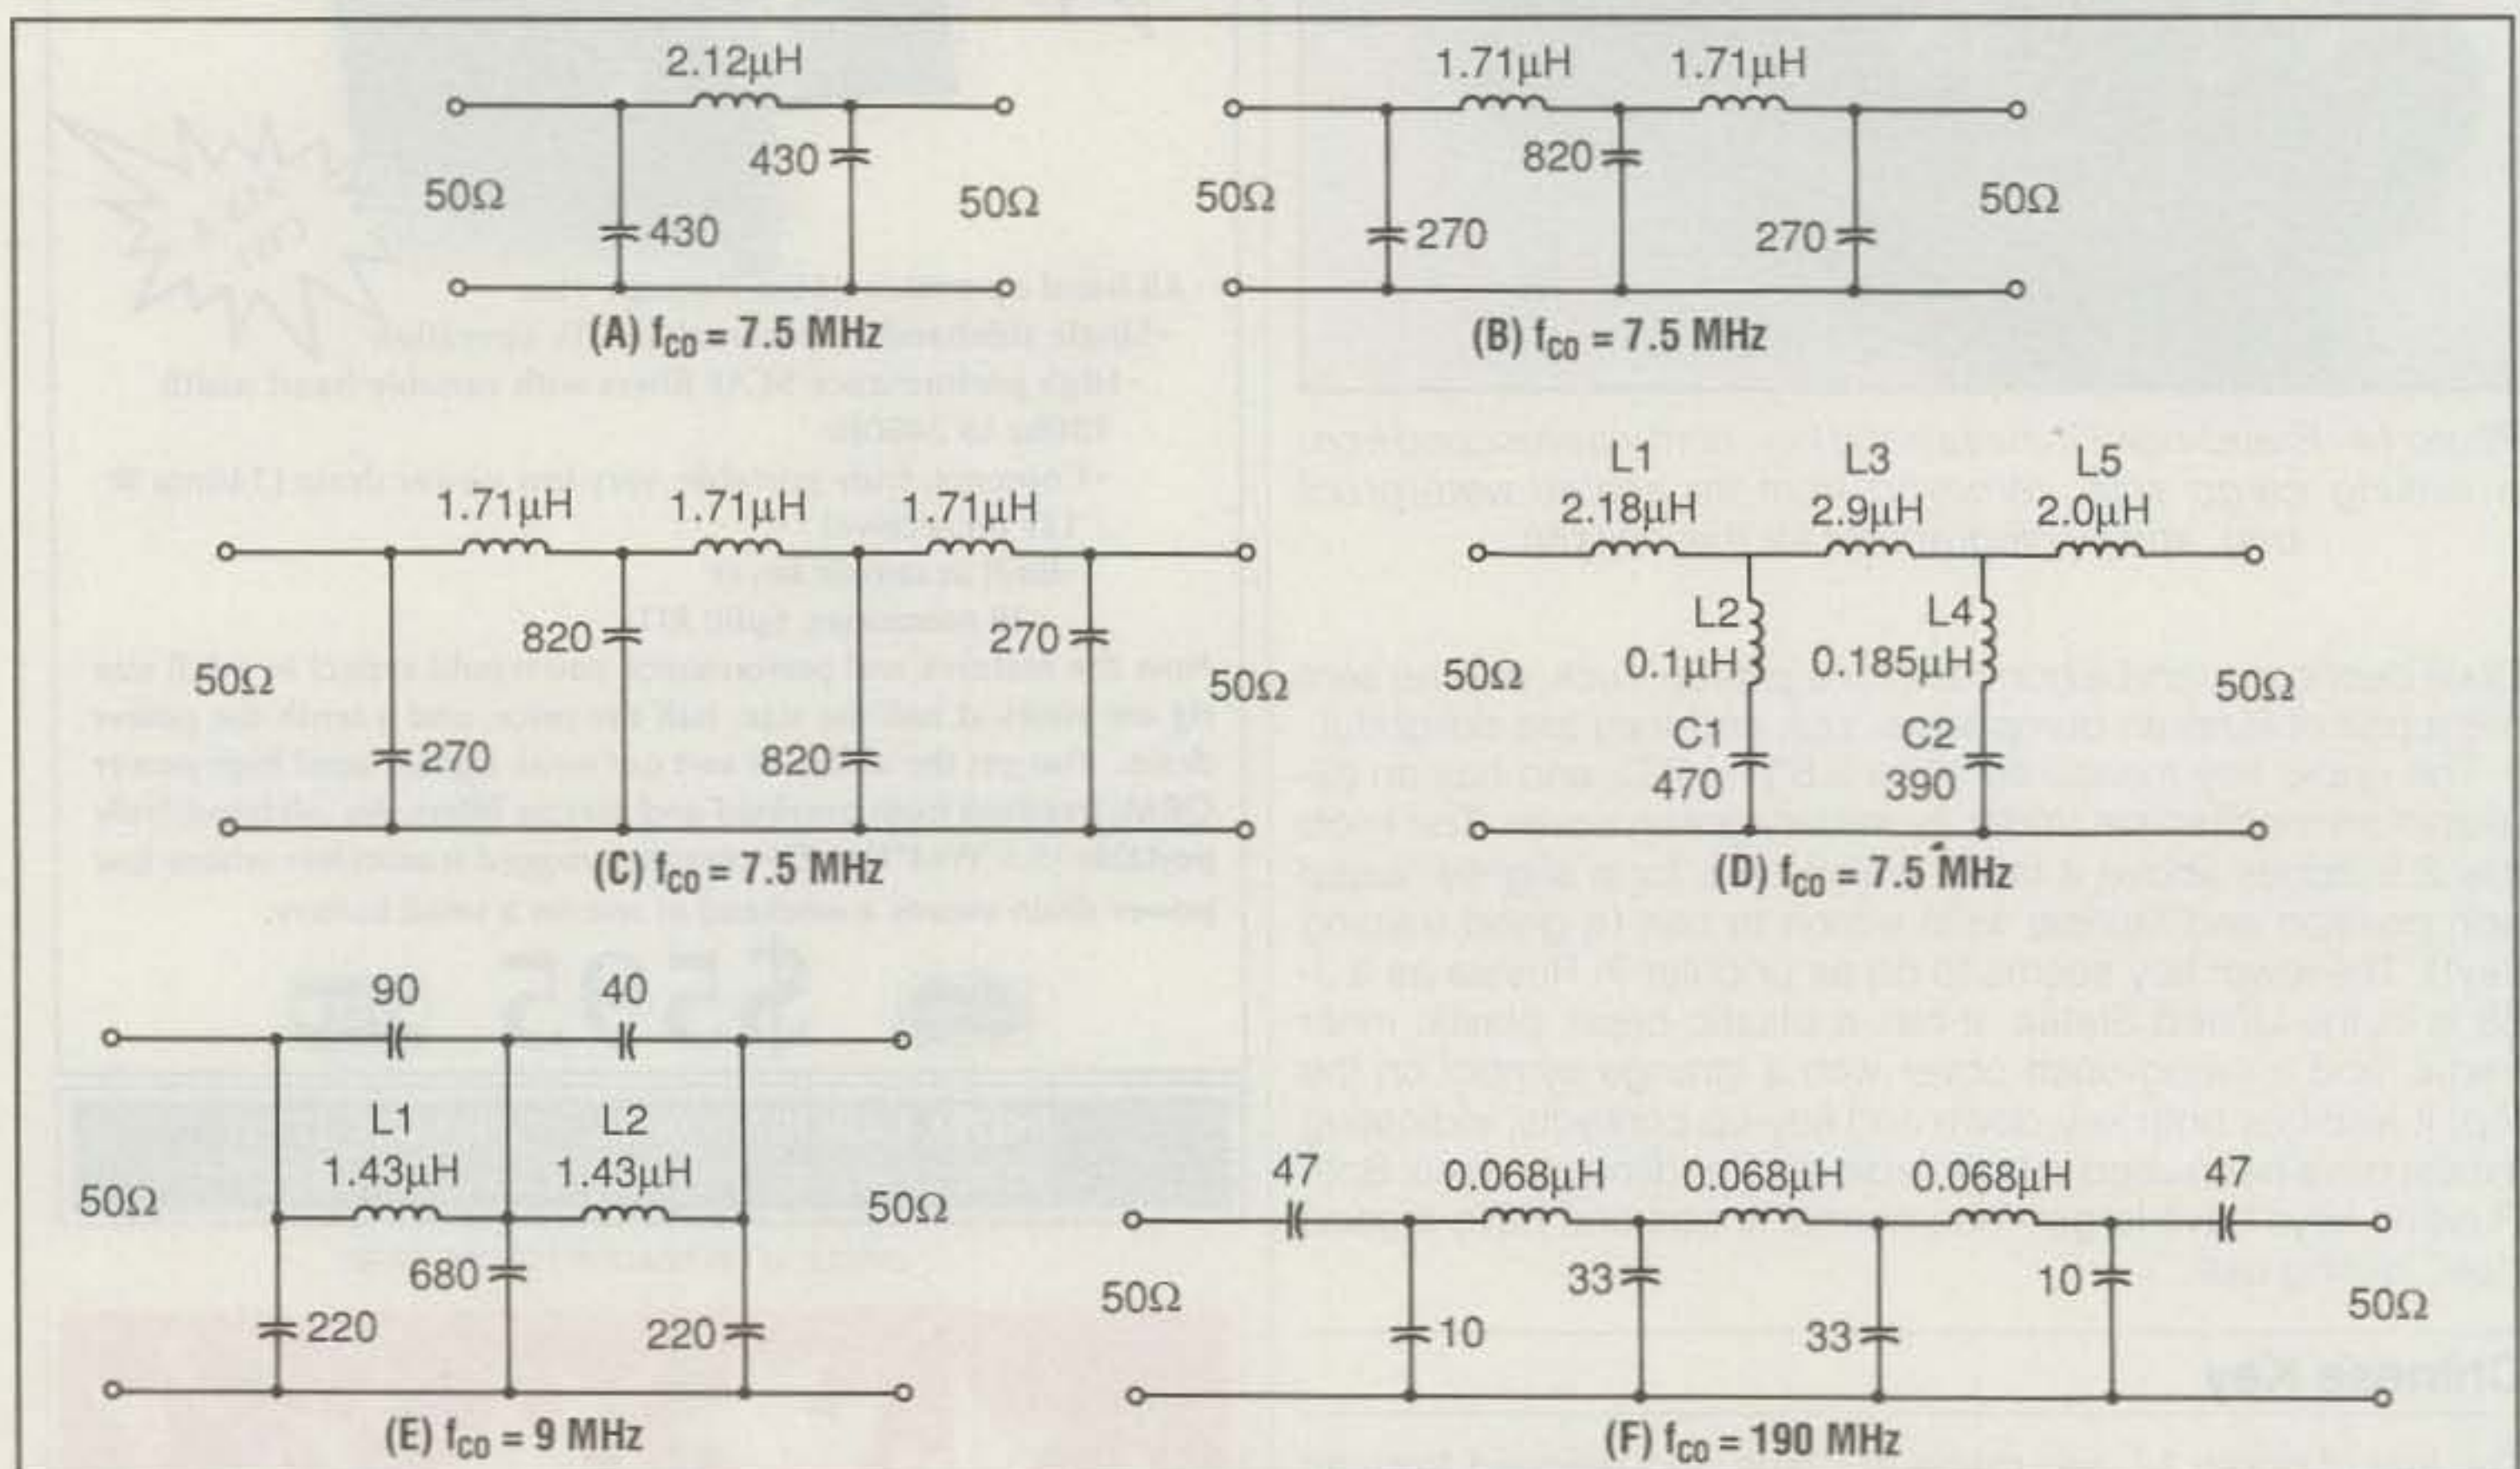
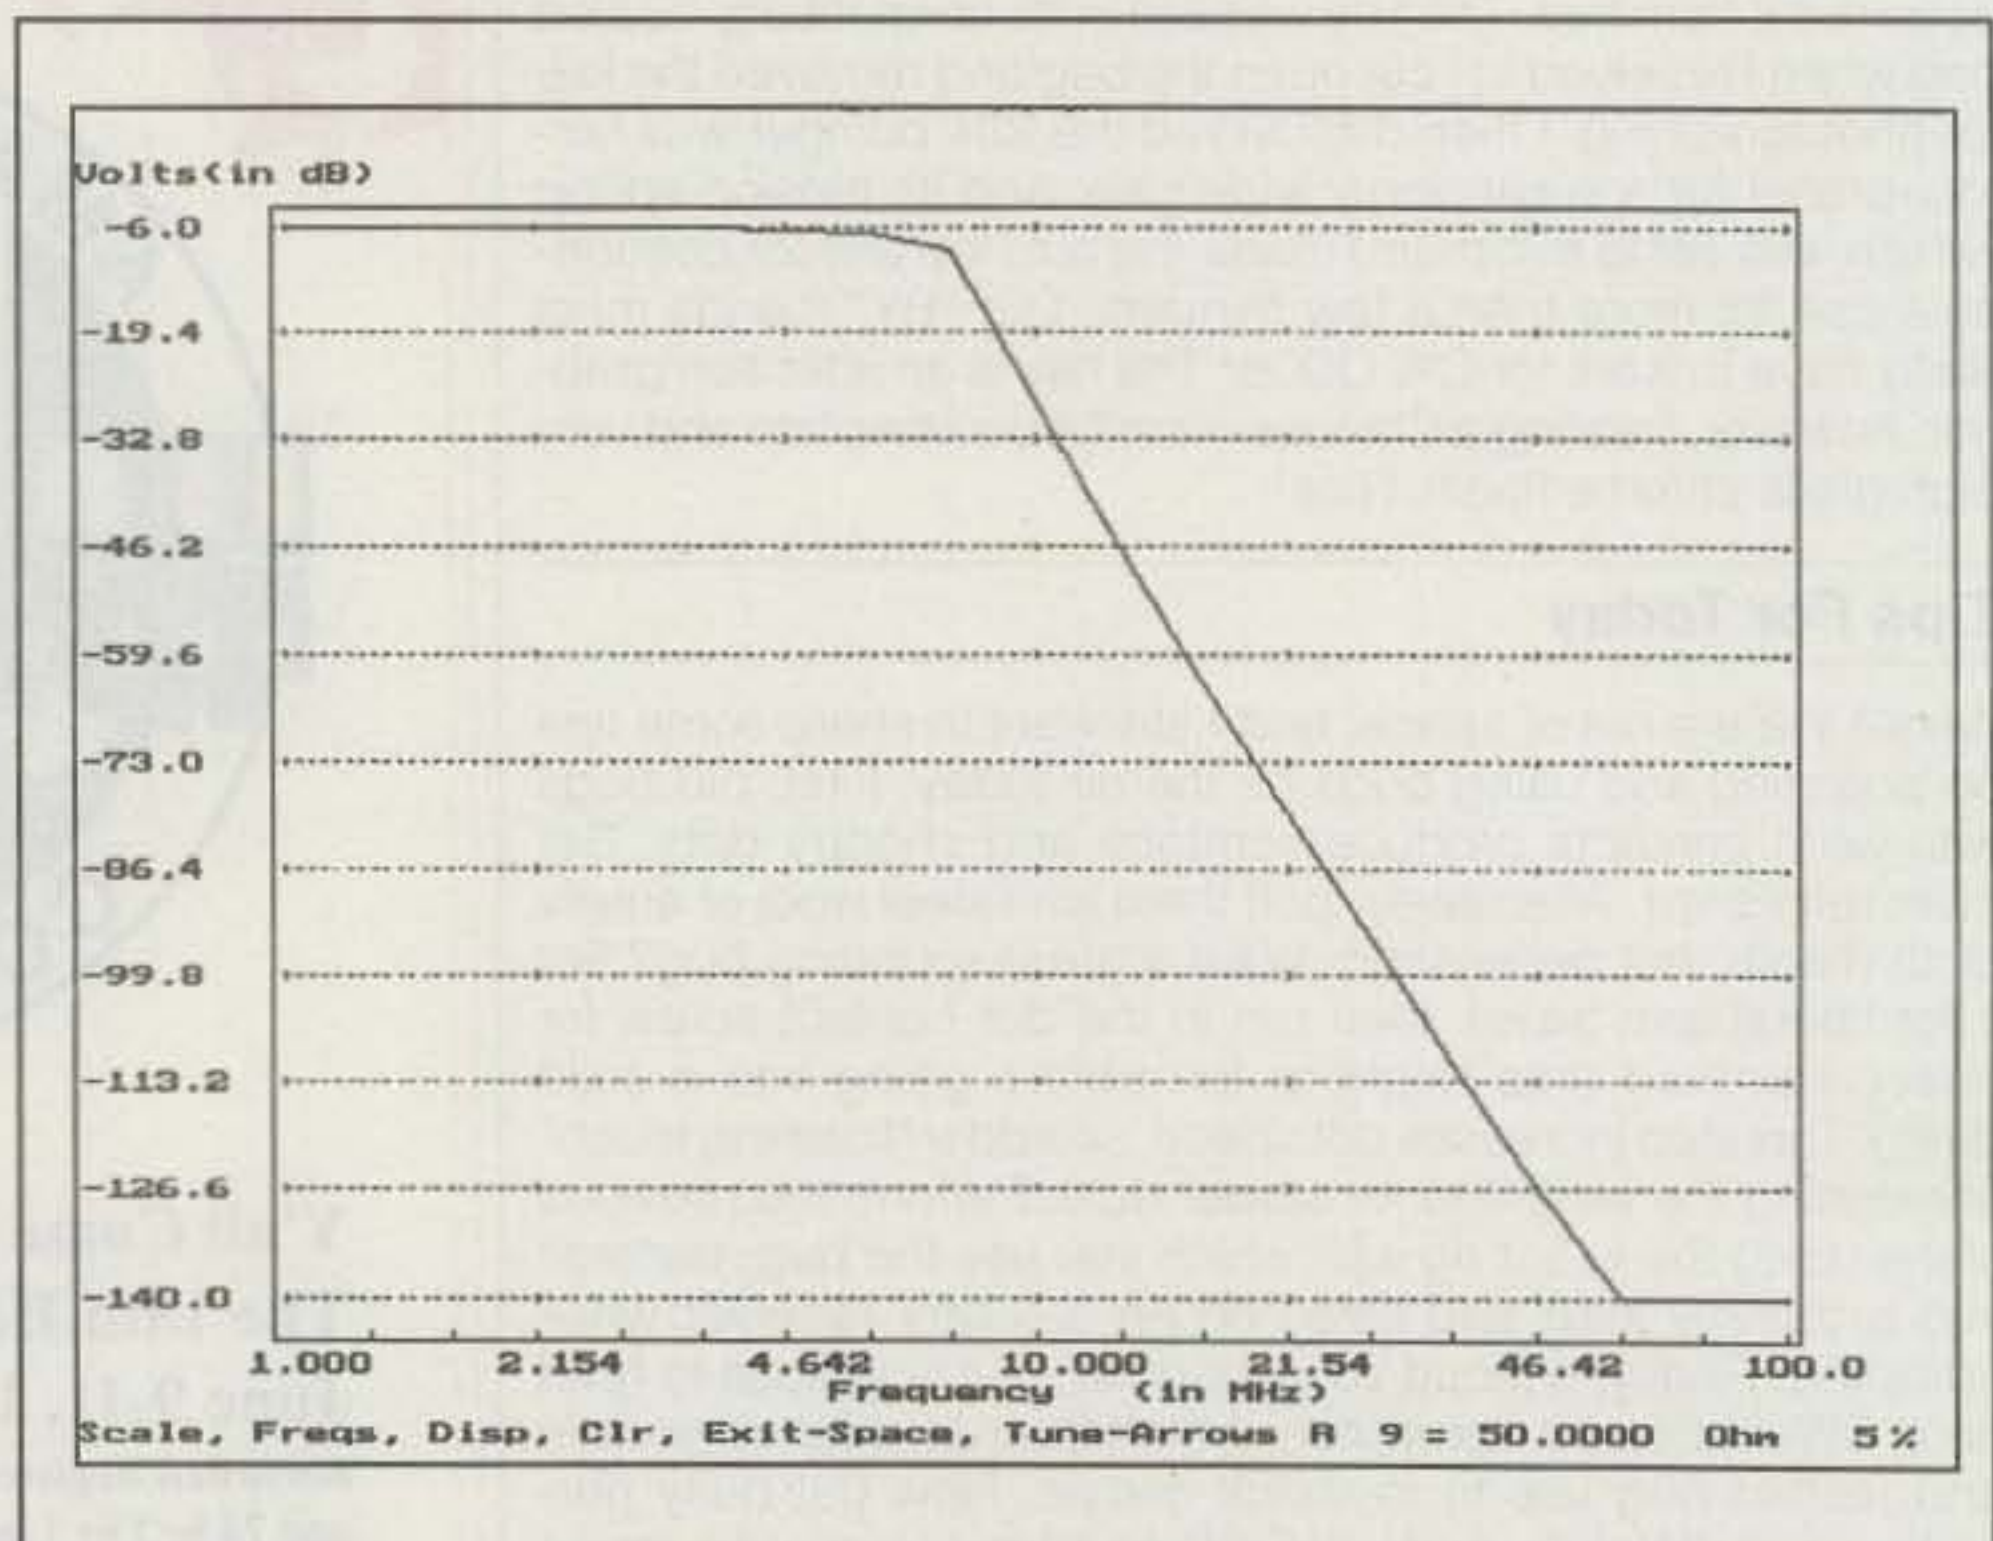
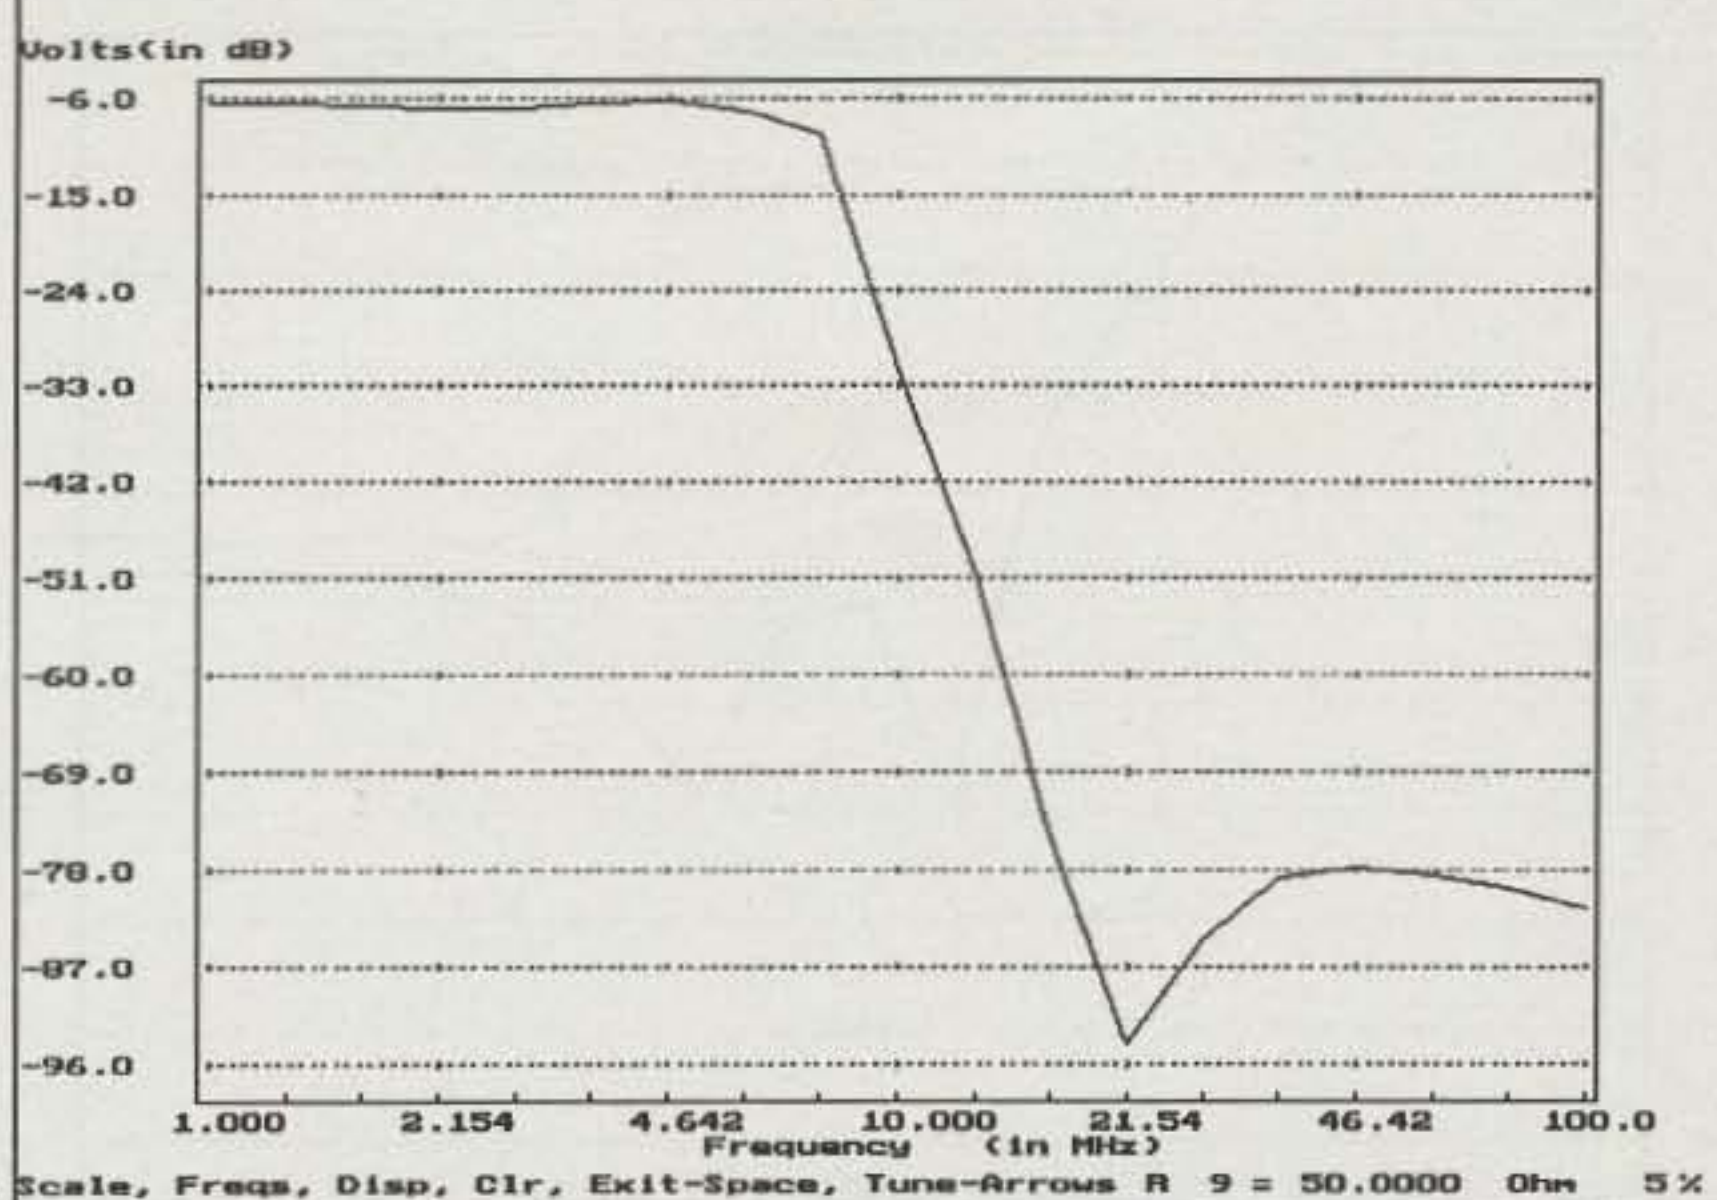
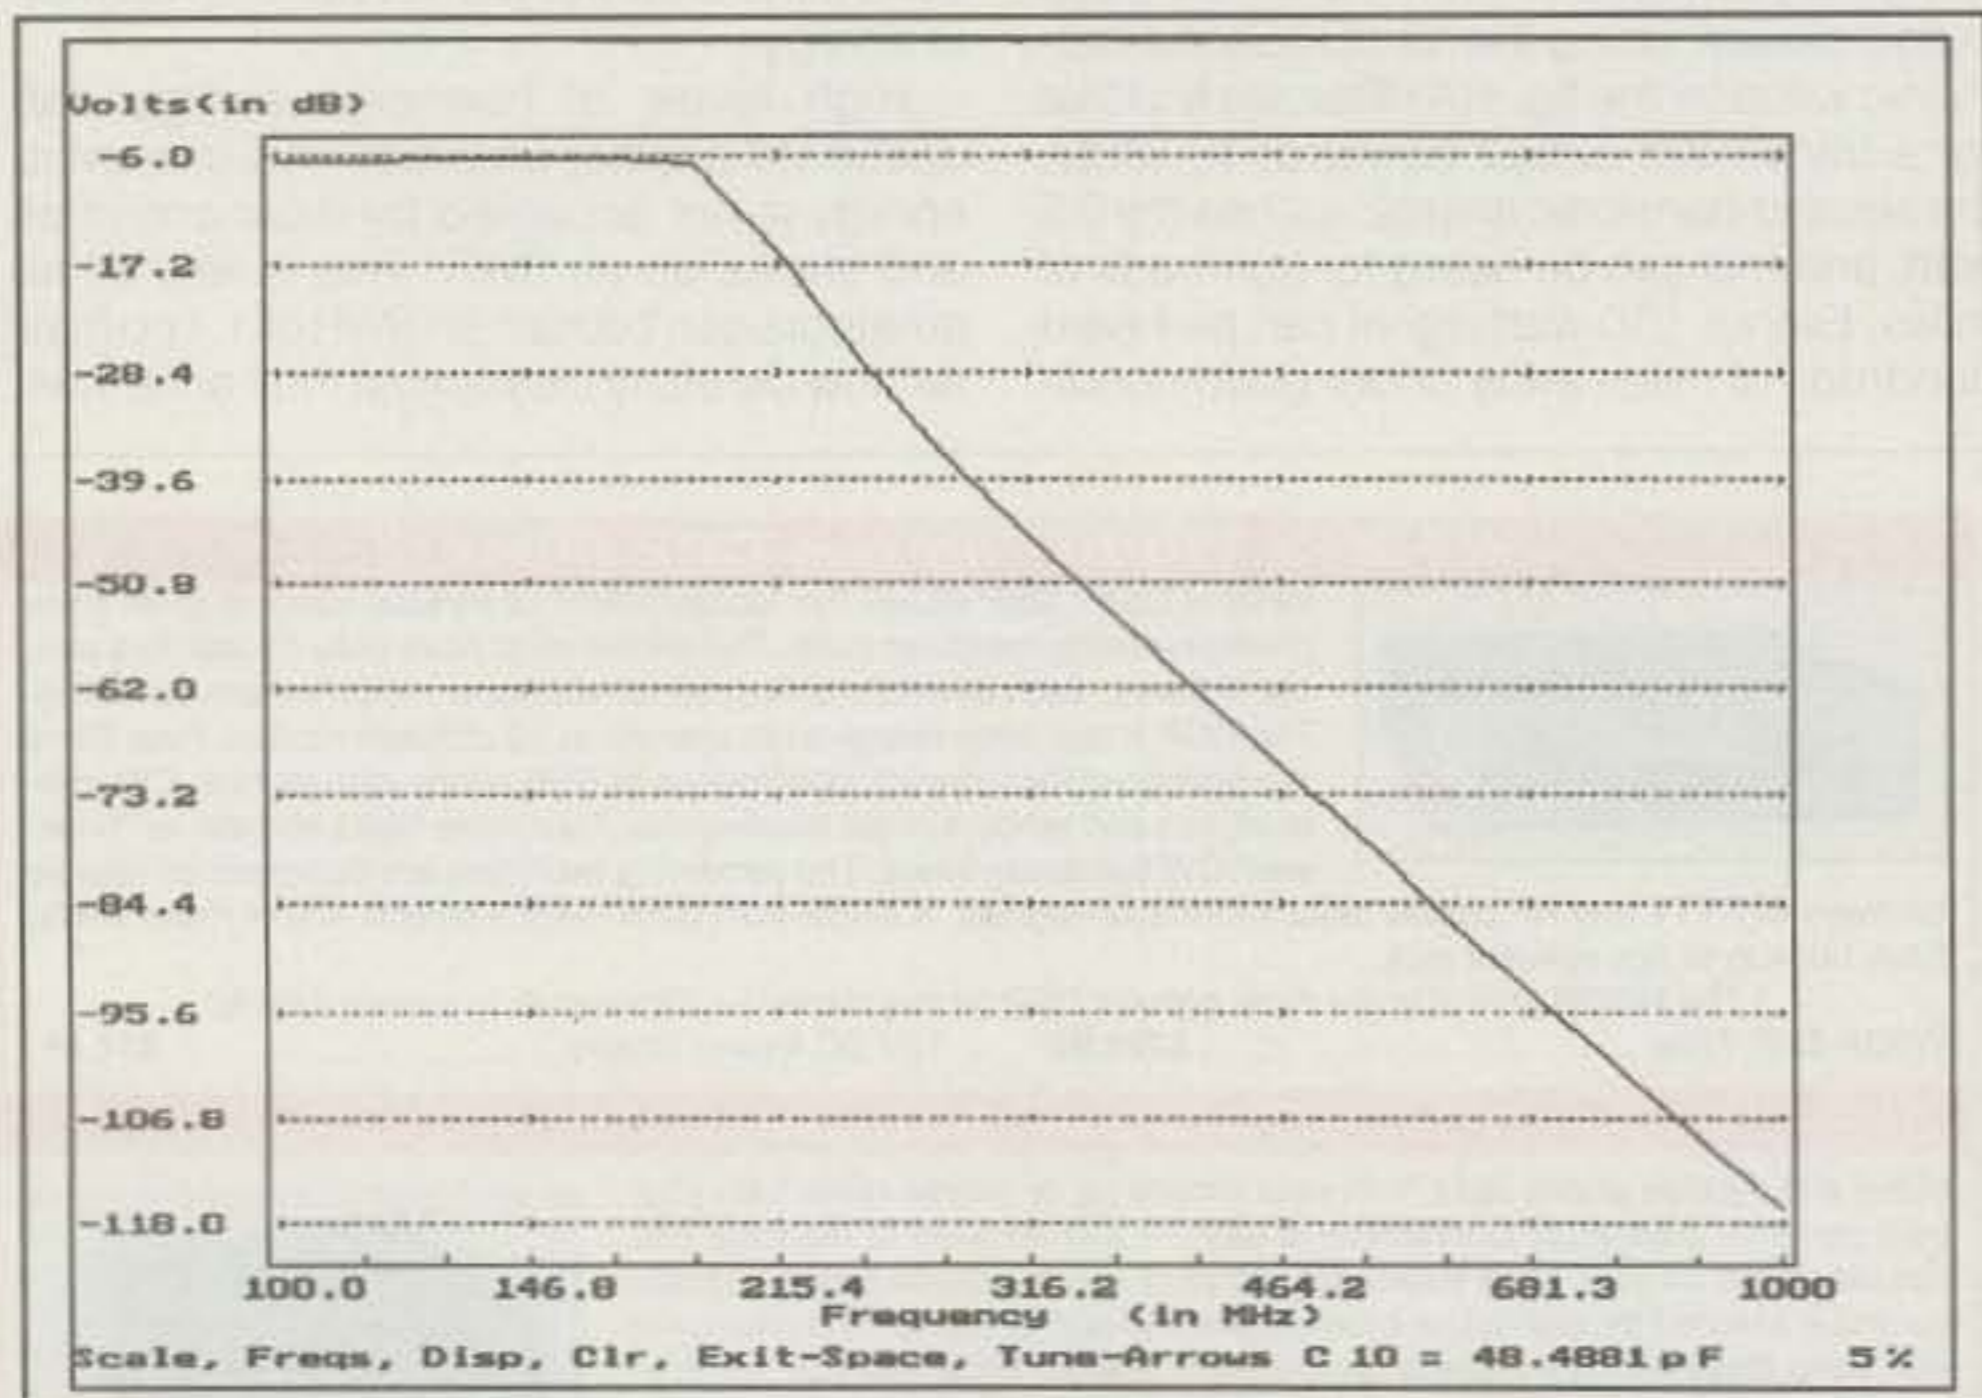

Fig. 1- Various low-pass filter arrangements that are discussed in the text.
Fig. 2- Computer plot of the fig. 1(C) low-pass filter, based on NOVA software.
Fig. 3— Filter response for the elliptic filter in fig. 1(D) showing the improved harmonic attenuation compared to no-elliptic filters.
Fig. 5—Computer plot for the 9-element, 2 meter low-pass filter.
Fig. 1(A) shows a single pi type of low-pass filter designed for use at 40 meters. The second harmonic is down only 13 dB from peak power, per computer analysis with NOVA software. The third harmonic is attenuated by 27 dB. Neither figure complies with the FCC regulations. The filter performance worsens as the mismatch between it and the PA collector increases. The mismatch can be resolved easily by using a broadband matching transformer between the PA and the filter (standard design procedure).
Fig. 1(B) shows a 40 meter half-wave type of low-pass filter that is often seen in low-power, solid-state, homebrew transmitters. It also falls short of the mark in attenuating spurious energy. Analysis shows that the second harmonic is down by 22 dB, while
the third harmonic is 45.6 dB below peak output power. Using the 13 dB second-harmonic value for the fig. 1(A) filter, we find that for a transmitter output power of 10 watts, the second-harmonic energy is a healthy 0.5 watt, and this can be heard for hundreds of miles. Even a 1/10 watt signal can be heard hundreds of miles away under good condi-
Fig. 4—The response curve for the elliptic filter model in fig. 1(E). The frequency at the bottom scale has been compressed to more clearly define the two notch frequencies.
The circuit in fig. 1(C) is my choice for run-of-the-mill transmitter output filters. It is easy to build and not expensive. I designed it for 40 meters with standard-value capacitors. The inductors are wound on Amidon T50-6 toroids (19 turns of No. 22 enamel wire). Polystyrene or dipped silver mica capacitors are best in filters. The T50 cores will accommodate power levels up to 50 watts at low SWR. T68-6 cores (or larger) are recommended for power levels up to 120 watts.
The fig. 1(C) filter attenuates the second harmonic by 32 dB. The third harmonic is down by 37.5 dB. A curve for this Butterworth filter is provided in fig. 2. Filters for other amateur bands can be designed by using the filter tables in *The ARRL Handbook* or with software such as RF CAD or other filter programs.
Fig. 1(D) shows the circuit for an effective elliptic low-pass filter. The series-resonant elements—C1, C2, L2, and L4—are tuned to the second and third harmonics of 7 MHz in this example. Trimmers in parallel with
Harmonic suppression for the fig. 1(D) filter is 51 dB (second) and 88 dB (third), which greatly exceeds the performance of the fig. 1(C) circuit. Fig. 3 shows the response curve for the elliptic filter.
Another method is suitable for obtaining elliptical-filter performance. An example is given in fig. 1(E). The circuit is similar to that of fig. 1(B), except for the two capacitors that have been added across L1 and L2. These capacitors tune the two inductors to the second and third harmonics of the fundamental signal. Again, trimmers across the coils will permit on-the-nose frequency adjustment. Attenuation of the second harmonic is 66 dB, and the third harmonic is down 64 dB. Fig. 4 illustrates where the two notches appear on the response curve.
VHF harmonics cause all manner of problems to commercial VHF and UHF services, especially where repeaters are involved. An effective low-pass filter is often helpful when used at the output of a 2 meter transmitter. Fig. 1(F) provides a circuit for a filter that attenuates the second harmonic by 36 dB and the third harmonic by 62 dB. It is designed around standard-value capacitors. L1, L2, and L3 have an ID of 1/4 inch and a length of 1/2 inch. Use 5 turns of No. 18 bus wire for each coil. The two 47 pF capacitors at the filter ports are necessary in order to ensure a 50 ohm bilateral impedance. Best performance will result when each filter section is contained in a separate shield compartment (prevents input-output leakage). The plot for this filter is presented in fig. 5.